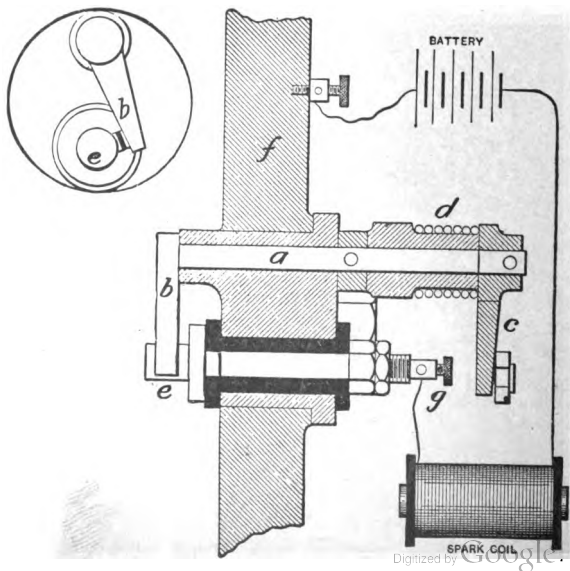

FIG. 31.—Hammer Reed
**The Hammer Break.** The principle of the hammer break is shown in Fig. 31. The spindle *a*, carrying the contact *b*, is actuated by cam and rod through the lever *c*; *d* is a spring to keep *b* against the collar *e*; *f* is the cylinder head. Contact *b* is grounded to the cylinder. Contact *e* (which is *inside* the cylinder) is insulated from the cylinder and its terminal *g* is connected to the source of current. When the contacts *e* and *b* are separated mechanically, a spark occurs. The cam or eccentric operating this gear is situated on the main or countershaft of the engine. An eccentric may be used in place of the cam.